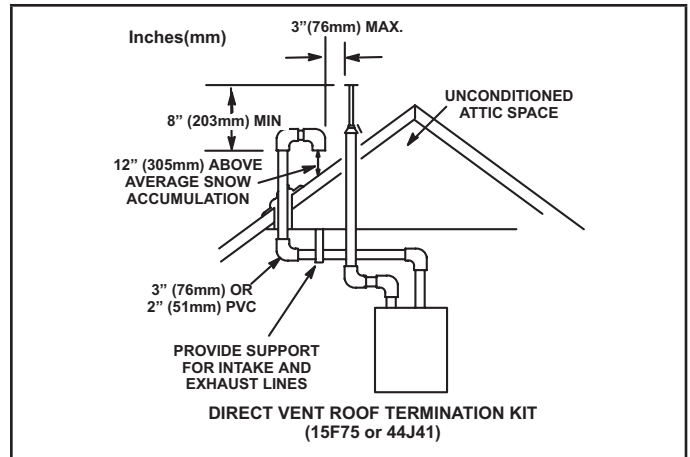

FIGURE 31
Intake and exhaust pipes may be routed either horizontally through an outside wall or vertically through the roof. In attic or closet installations, vertical termination through the roof is preferred. FIGURE 31 through FIGURE 39 show typical terminations.
- 3 - On roof terminations, the intake piping should terminate straight down using two 90° elbows (FIGURE 31).